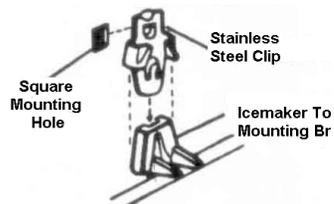
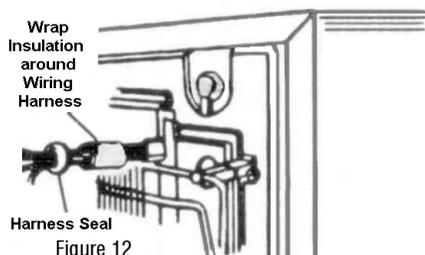

Figure 11
Figure 12
8. Attach stainless steel mounting bracket to the bottom of the icemaker (see Figure 11), do not tighten, you will need to adjust this bracket as you mount the icemaker. Start the two long screws into the holes provided along the top left side of the refrigerator. The icemaker will slip over the screws and slide down into position, you will tighten these later. Alternate mounting; (see Figure 12) slip mounting clips into square mounting holes and push down until clips are firmly mounted.